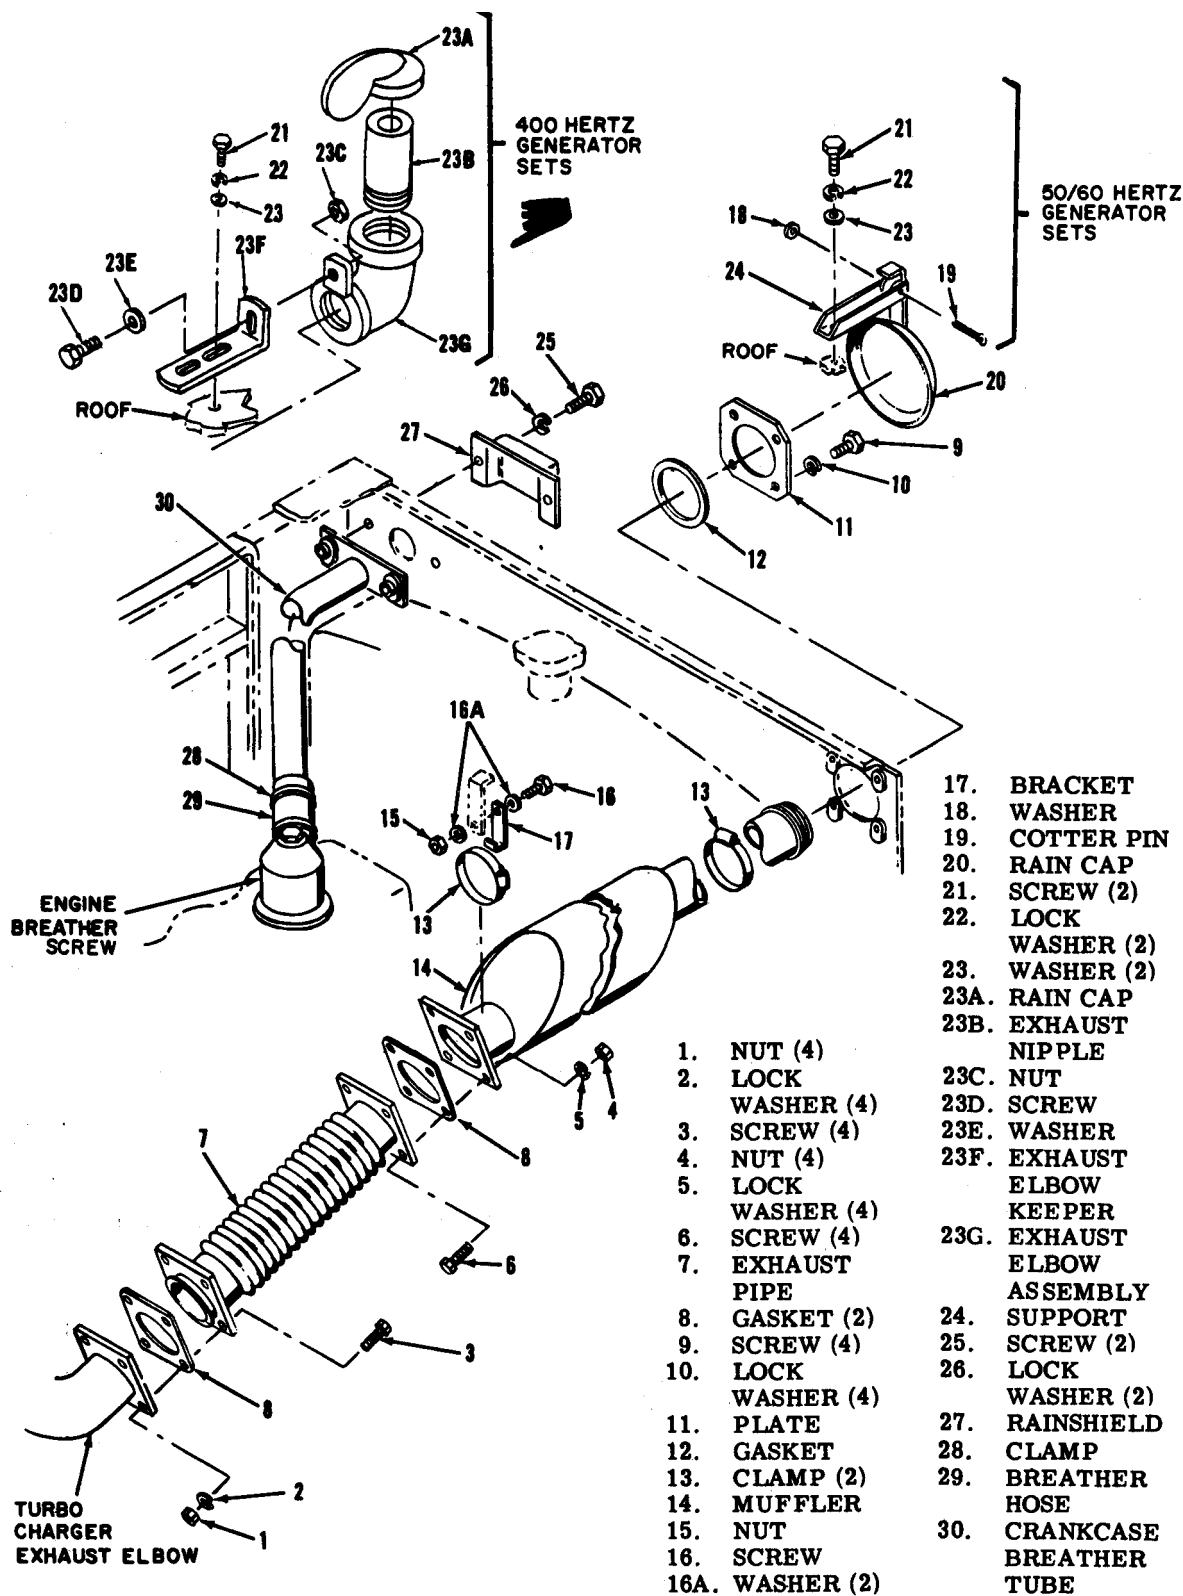

Figure 3-13. Muffler, exhaust pipe, and crankcase breather tube and hose, removal and installation
a. REMOVAL. Remove muffler and exhaust pipe in sequence illustrated in figure 3-13, observing the following:
1. Remove exhaust pipe (7) and gaskets (8) from muffler (14) and turbo charger exhaust elbow.
2. Remove plate (11) and gasket (12) from front housing.
3. Support weight of muffler and remove clamps (13). Remove muffler (14) and bracket (17).
b. INSTALLATION. Install muffler and exhaust pipe in reverse sequence illustrated in figure 3-13, observing the following:
2. Install bracket (17) loosely. Install muffler (14) and clamp (13) and tighten clamp (13).
3. Install gasket (12) and plate (11) around muffler outlet and install screws (9) and lock washer (10) finger tight.
4. Install gaskets (8) and exhaust pipe (7) and secure to turbo charger exhaust elbow and muffler (14). Tighten screws (9) and bracket (17).
a. REMOVAL. Remove crankcase breather tube and hose in sequence illustrated in figure 3-13, observing the following:
1. Unbolt tube (30) and rainshield (27) from front housing. Loosen forward clamp (28). Loosen engine breather screw to permit movement of breather.
2. Hold hose (29) stationary and twist tube (30) to remove tube from hose. Remove hose (29). Cover engine breather opening.
b. INSTALLATION. Install crankcase breather tube and hose in reverse sequence illustrated in figure 3-13, observing the following:
1. Install hose (29) on engine breather. Insert breather tube (30) in hose and secure tube and rainshield (27) to front housing.
2. Tighten engine breather and then clamps (28).
1. Prior to removing front cover (58), remove muffler clamp from roof bracket. Refer to figure 3-13.
1. After installing front cover (58) secure muffler to roof bracket with muffler clamp. Refer to figure 3-13.